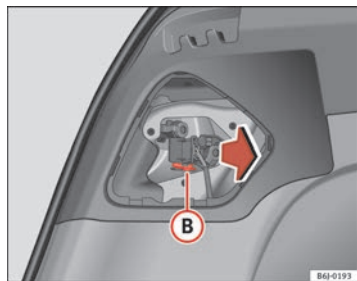

Fig. 155 Removing the bulb holder
- Remove the bulb holder by pressing the clip **(B)** ⇒ fig. 155 and pulling outwards.